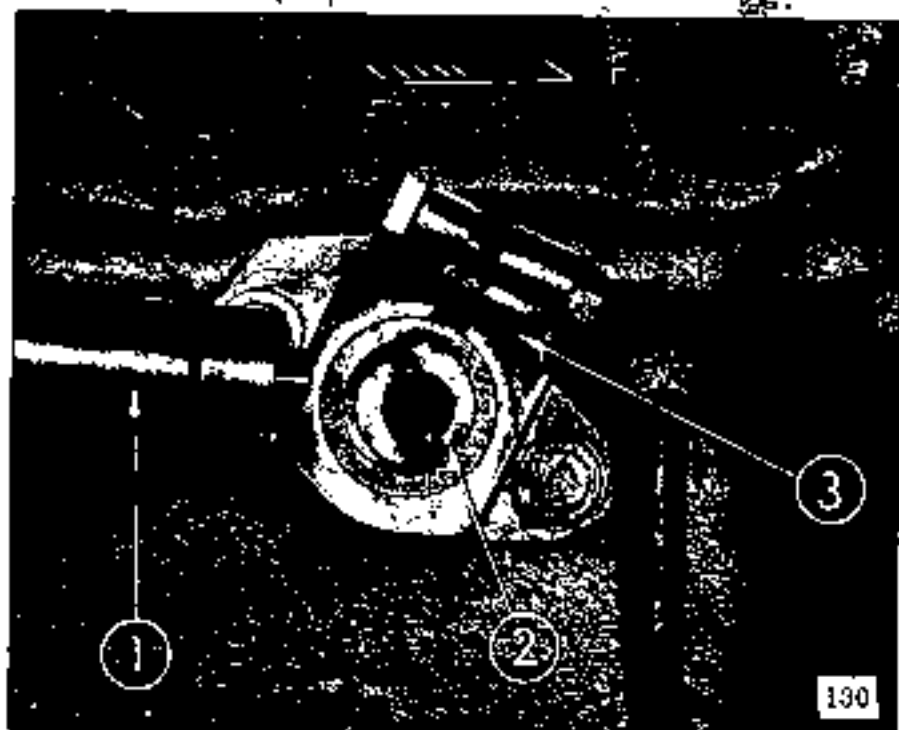

Fig. 3 Assembly Angle of Drive Shaft
4. Adjusting the direction of the rotor so that it engages the drive shaft slot, mount the distributor to the engine. During this assembly, the directions of the distributor and rotor must be as shown in Fig. 3. At the same time, the breaker must be in its position when it is just beginning to open. If these conditions do not coincide, they are made to do so by slightly turning the distributor body only. To determine the position when the breaker point is just beginning to open, turn on the ignition key, hold the end of the No. 1 spark cord about 1/4 inch away from the cylinder head, and turn the body until spark jumps across the gap.